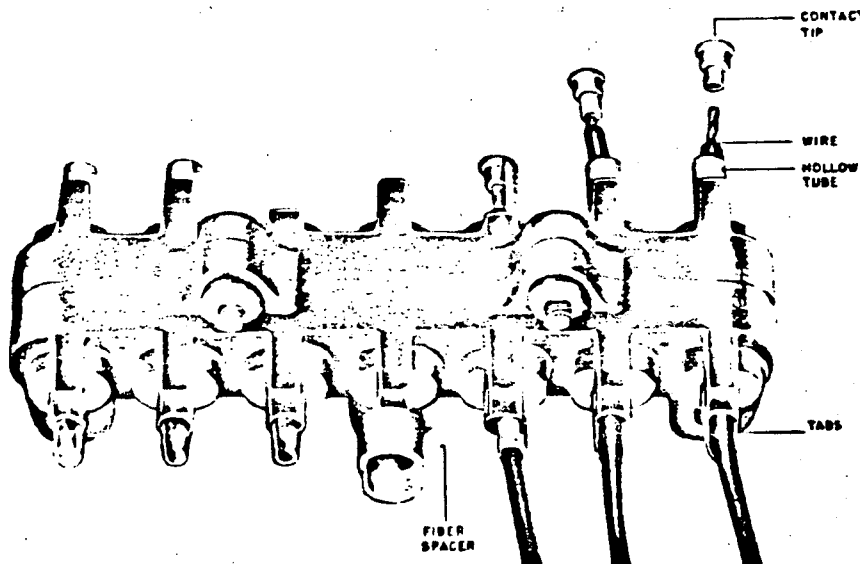

Figure 2. (8017973) Movable Secondary Disconnects
#### SECONDARY DISCONNECT, FIGURE 2.
3. If the breaker is a drawout type, with secondary disconnects, Figure 2, remove the secondary disconnect supporting bracket from the breaker back frame. Also remove any wiring bundle retainers that may be attached to the back frame.
4. Remove one elastic stop nut from each of two studs (3), which tie the upper ends of the mechanism frame to the back frame of the breaker.